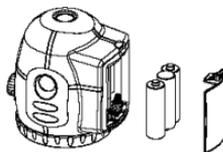

Fig.3
1. As shown in fig. 3, remove battery cover.